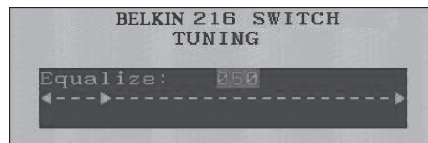

Figure 29 Image Tuning label
2. Press “F5”. The screen image of the selected computer appears together with the Image Tuning label (see Figure 29).